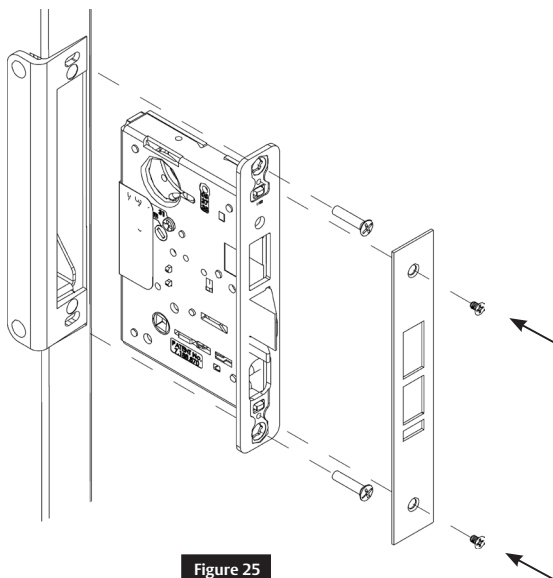

Figure 25
3. Install mortise lock, two (2) #12-24 x1" flat head mounting screws, outside front, and two (2) #8-32 x1/4" flat head screws. (Figure 25)